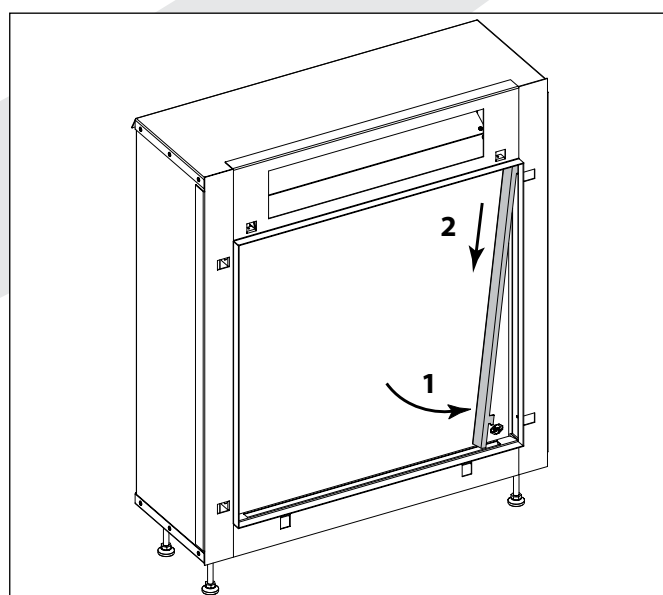

Figure 10
5. Position the right hand decorative strip (**figure 10**). Position the left hand strip in the same way.